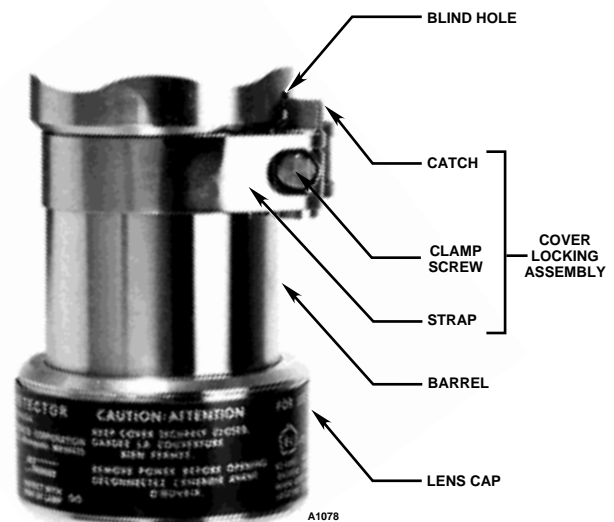

Figure 15—Cover Locking Assembly (Optional)
- If the UV and/or IR sensor modules are already installed in the detector housing, proceed to step 12. If the sensors are not installed, remove the applicable sensor housings from the junction box cover (see Figure 12). If the detectors are equipped with a cover locking device (see Figure 15), loosen the clamp and disengage the "catch" from the blind hole. The tool required is a 5/32-inch hexagonal (Allen) wrench.
13. Check the O-rings on both sensor housings to be sure that they are in good condition and are fitted properly, then re-install the sensor housings on the junction box cover. (See the "Maintenance" section of this manual for information regarding care of O-rings.) The sensor housing with the large viewing window is for the UV detector and the sensor housing with the small window is for the IR detector. Hand tighten the sensor housings into the base until the O-rings are fully seated to maintain the explosion-proof and watertight integrity of the housing. If the unit is equipped with cover locking clamps, loosen the clamps sufficiently so that the clamp catches can be seated in the blind holes on the junction box cover. Fasten the clamps securely using a 5/32 inch hexagonal (Allen) wrench. (See Figure 15.)